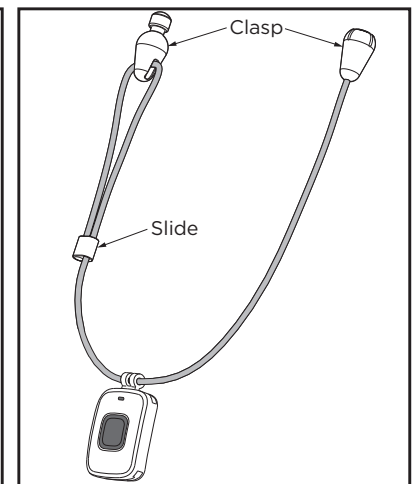

Figure 5: 1148 Personal Pendant with Lanyard
2. Place the lanyard around your neck and snap together the break-away clasp. See Figure 5.
3. Adjust the length of the lanyard to fit using the slide. See Figure 5.